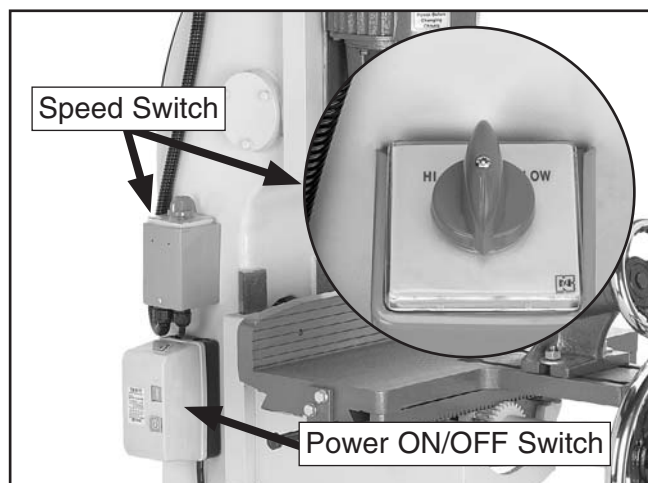

Figure 12. Power ON/OFF and speed switches.
4. Move the speed switch to the OFF position, then push the top green button of the power ON/OFF switch to allow power to flow to the machine (see **Figure 12**).